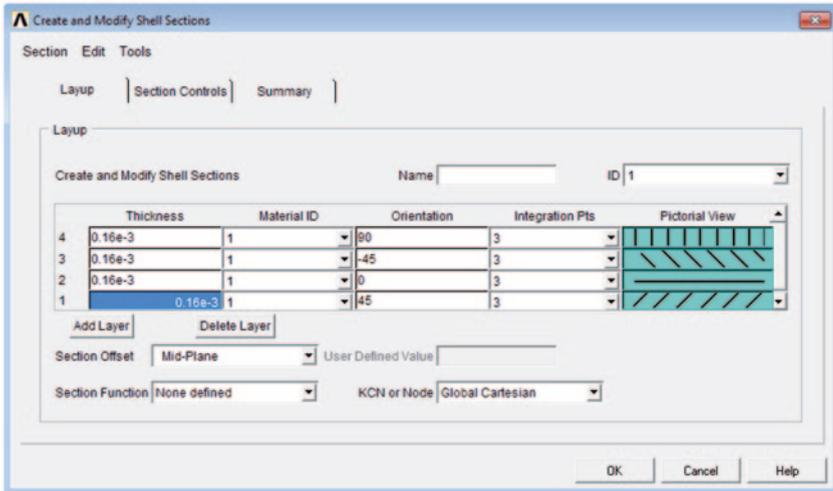

Fig. 8.44 Dialog box for entering layer information
- Dialog box for layer information appears; material number (**Material ID**), orientation angle (**Orientation**), and thickness (**Thickness**) information for each layer (ply) are entered in this dialog box. Enter the related quantities, as shown in Fig. 8.44.